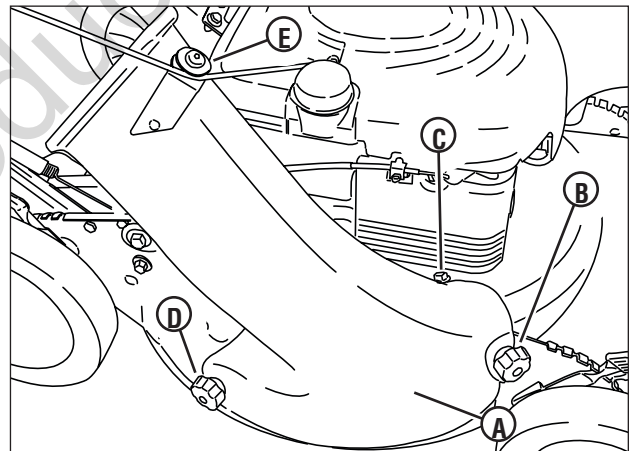

Figure 10: Installing the grass bag adapter
2. Install the adapter (**A, Figure 10**) to the deck in place of the recycling cover, making sure that: